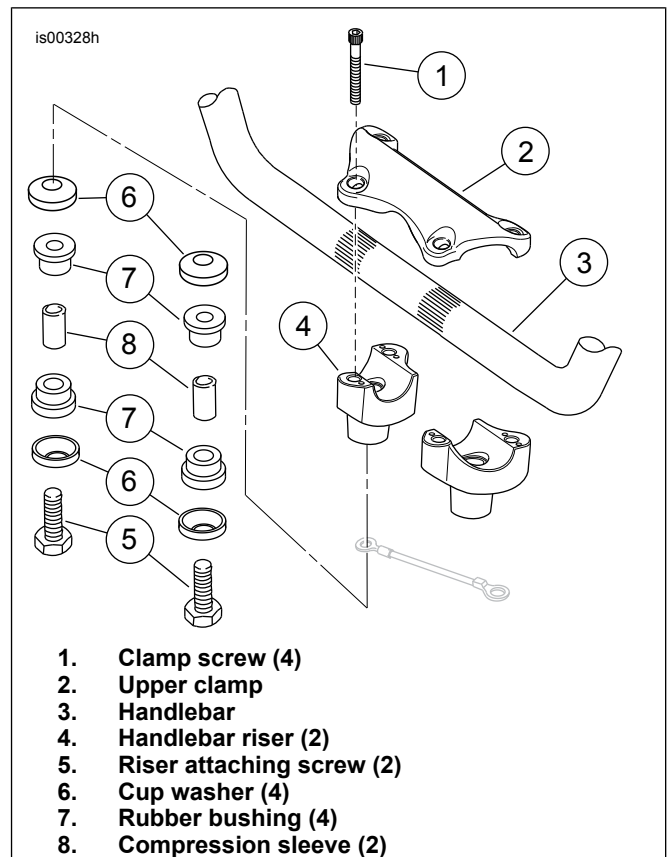

Figure 1. Handlebar Clamp and Risers (FLHT, FLHX)
See Figure 1. Remove screws (1) that fasten handlebar upper clamp (2) to risers (4). Remove clamp. Remove handlebar (3).